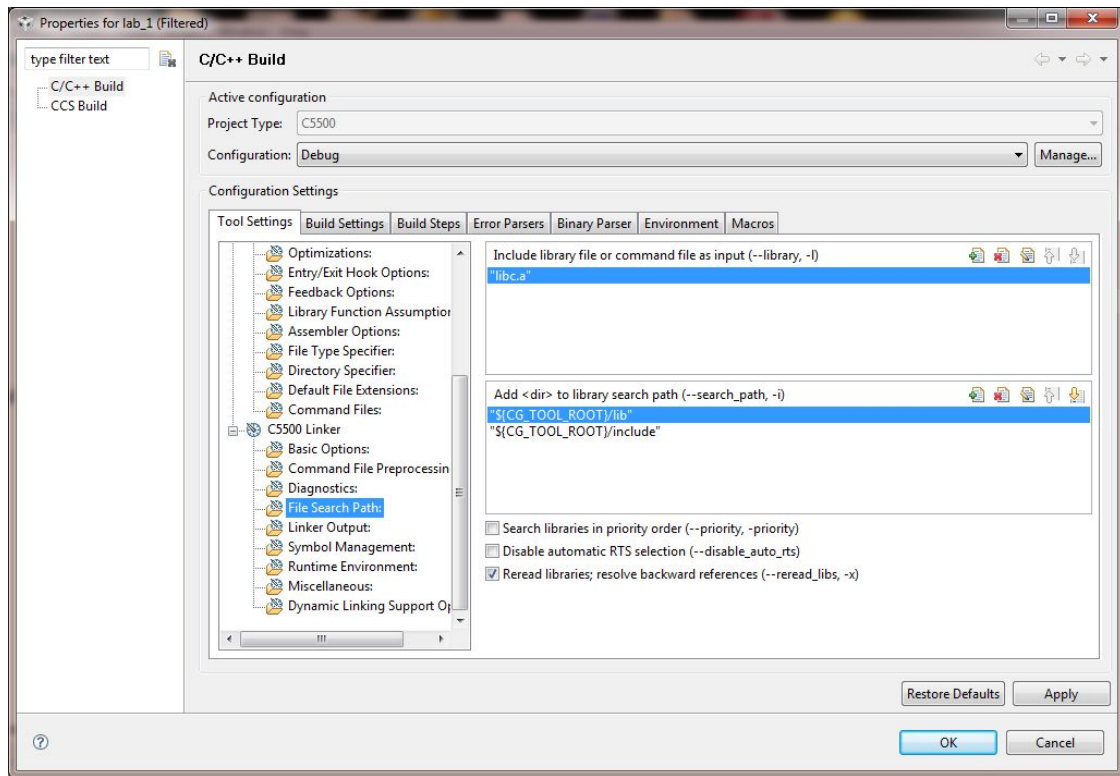

Figure 5: CCS interface demonstration showing linker options for a project.
- Now go to **C5500 linkers** and select **File search path**. From the section named, **Include library file or command file as input(--library, -l)** (Refer to figure 5), remove any lib files already present (For ex. **libc.a** as shown in the figure). Then, Include the following two library files: **C:/Program Files (x86)/Texas Instruments/ccsv4/tools/compiler/c5500/lib/rts55x.lib** and **C:/Program Files (x86)/Texas Instruments/ccsv4/emulation/boards/usbstk5515_v1/lib/usbstk5515bsl.lib**.